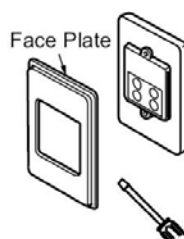

Fig. 3
4. Remove the face plate from the controller using a flat screwdriver (fig.3). Take care not to damage the cover.